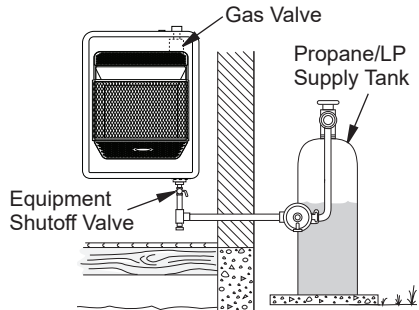

Figure 15 - Checking Gas Joints for Propane/LP Gas
3. Check all joints from gas supply (see Figure 15 or 16) to equipment shutoff valve. Apply a noncorrosive leak detection fluid to all joints. Bubbles forming show a leak.
4. Check all joints from equipment shutoff valve to control valve (see Figure 15 or 16, page 15). Apply a noncorrosive leak detection fluid to all joints. Bubbles forming show a leak.